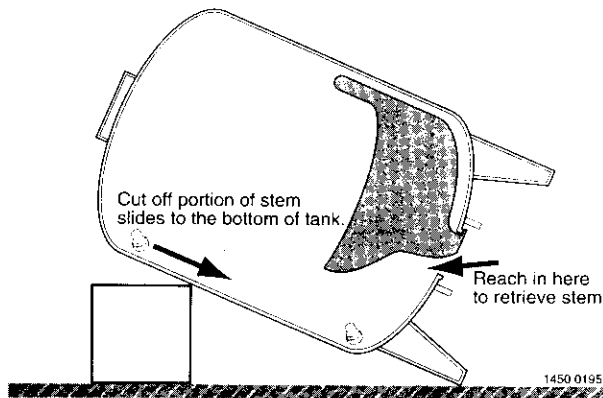

FIGURE 13
9. Block up tank as shown in Figure 13. This will allow cut off portion of stem to slide down to bottom of tank. Reach in around bag until you find it and remove it.